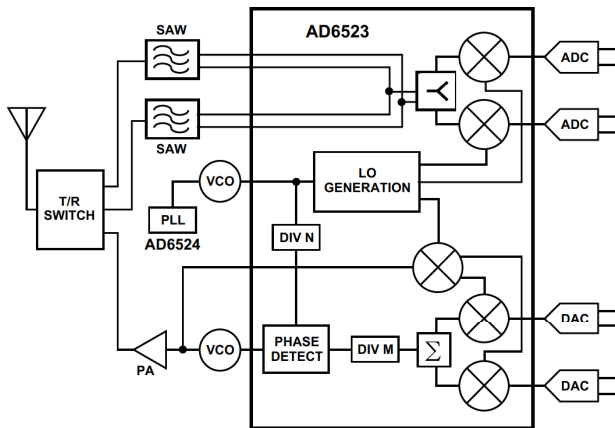

Figure 1. Block diagram of the Othello dual-band radio.
A functional block diagram of the Othello dual band GSM radio's architecture is shown in Figure 1. The receive section is at the top of the figure. From the antenna connector, the desired signal enters the transmit/receive switch and exits on the appropriate path, either 925-960 MHz for the GSM band or 1805-1880 MHz for DCS. The signal then passes through an RF band filter (a so-called "roofing filter") that serves to pass the entire desired frequency band while attenuating all other out-of-band frequencies (blockers—including frequencies in the transmission band) to prevent them from saturating the active components in the radio front end. The roofing filter is followed by the low-noise amplifier (LNA). This is the first gain element in the system, effectively reducing the contribution of all following stages to system noise. After the LNA, the direct-conversion mixer translates the desired signal from radio frequency (RF) all the way to baseband by